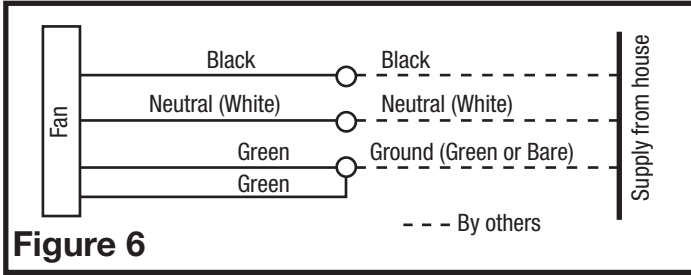

Figure 6
2. Pull the loose black, white and green wires out from the wire compartment (additional wires will be present). Install an approved electrical connector to the wire compartment cover (not included). Run a black (hot), white (neutral), and a green or bare ground wire from the supply through the electrical connector. Connect all wires from the supply to their corresponding wires within the wire compartment (**Figure 6**). Use approved methods for all connections.